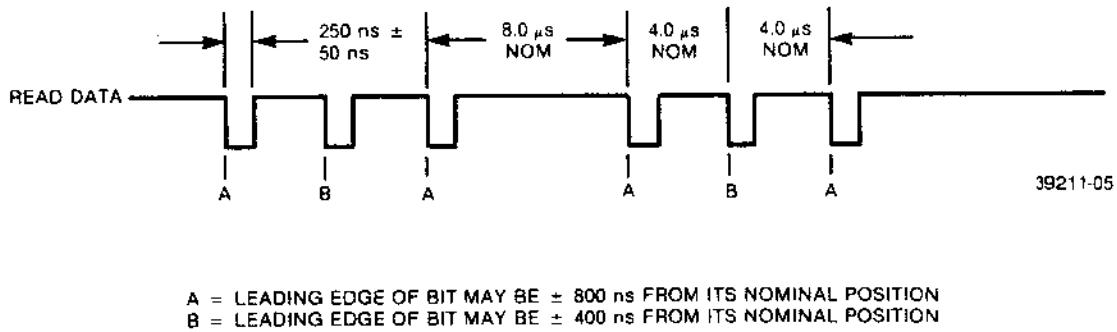

FIGURE 1-5. READ DATA TIMING (FM)
The timing of READ DATA (FM) is shown in figure 1-5.